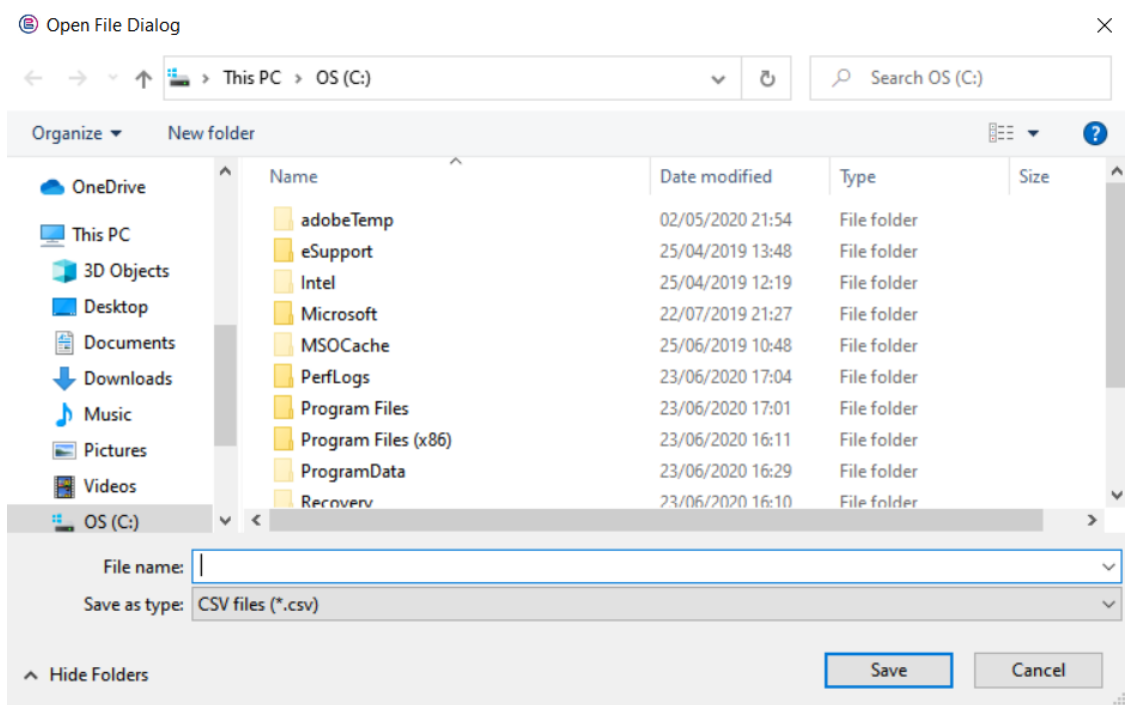

Figure 6.39. Saving window for CVS file created.
- If you want to save the Alarm Log, press “Export to CSV” under “Read Alarms” button, and select the position and the file name for the .CVS file, containing the Alarm Log, that “Serial Arduino.exe” will create on the PC (Figure 6.39).
- If you want to save the Events Log, press 'Export to CSV' under 'Read Events' button, and select the position and the file name for the .CVS file, containing the Events Log, that 'Serial Arduino.exe' will create on the PC as shown for Alarms Log in Figure 6.39.